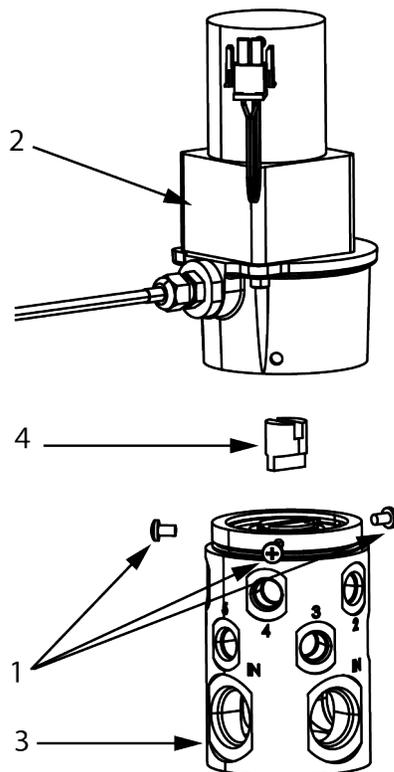

Figure 6-3 Motor Encoder Assembly, Spool Coupler, and Selector Valve
- 4) Separate old motor encoder assembly (2) from selector valve (3). See Figure 6-3 Motor Encoder Assembly, Spool Coupler, and Selector Valve, page 50.
- 8) Align spool coupler (4), valve, and motor encoder assembly, and then seat motor encoder assembly on valve. See Figure Figure 6-3 Motor Encoder Assembly, Spool Coupler, and Selector Valve, page 50.